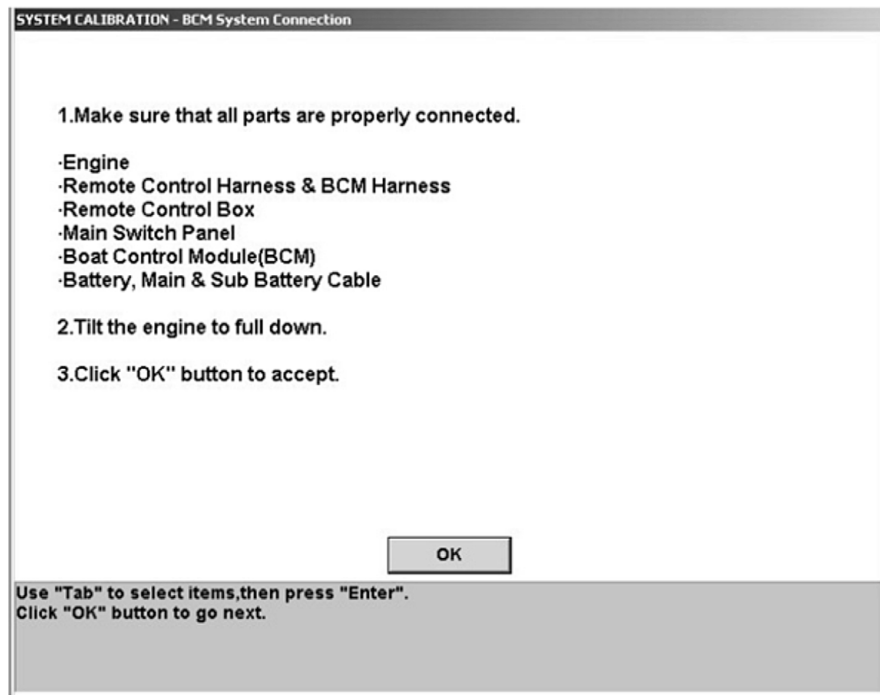

Figure 6-11. Pre-calibration checks.
1. Click **System Calibration** to start the calibration wizard. The dialog box shown in Figure 6-11 will be displayed. Review the checklist and when you've confirmed that all the items are complete, click **OK**.